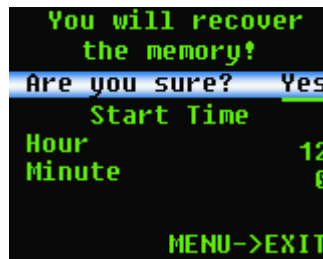
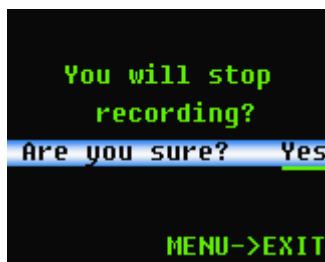

Figure 9.
Figure 10.
**a.** On the main menu interface, press the "up button" or "down button" to select "Record", then press the "left button" or "right button" again to enter the dialog box of figure 9 or finger 10: if it is not in recording state, will come into figure 9; if it is in recording state, will come into figure 10.
**b.** In the status shown in Figure 9, press "up button" or "down button" can change the position of selection bar, choose the item to be setted, press "left button" or "right button" can change the setting of the item, then press "menu button" to exit the status in Figure 9, and perform setting. Notice: when choose NO(not recording), press "up button" or "down button", the selection bar cannot be moved,
when choose YES(recording), the selection bar can be moved, and set the starting time of record. After finish setting, press "menu button" to exit the status in Figure 9, or the equipment cannot perform the recording function.
c. In the status shown in Figure10, press "left button" or "right button" can change the setting, press "menu button" will exit the Figure10, and perform setting. YES for stopping recording, NO for continue recording.